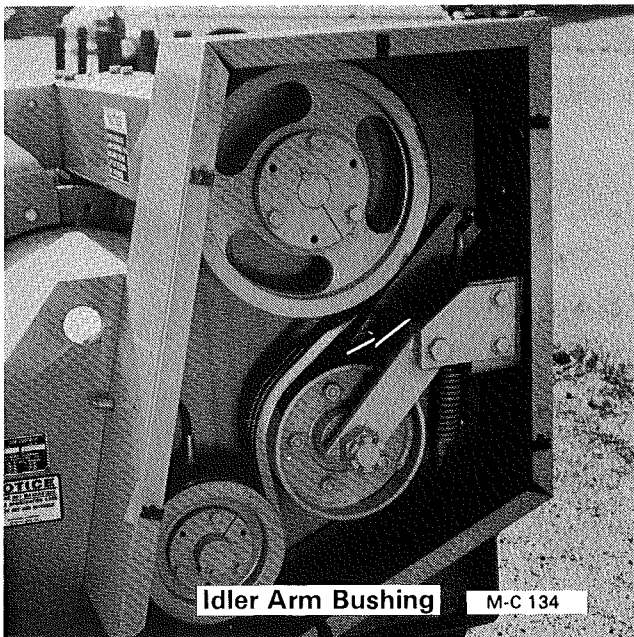

Figure 16
4. Lubricate the idler arm bushings once a season or every 200 hours of operation whichever occurs first, see Figure 16.